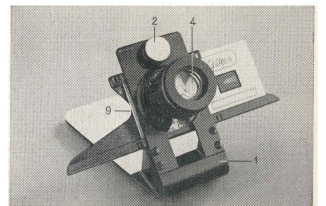

Fig. 2
The instrument is set up as in fig. 2: that is, assembling slide holder to the base by means of thumbscrew (2). The slide holder permits observation and prompt substitution of regular 2" x 2" slides.